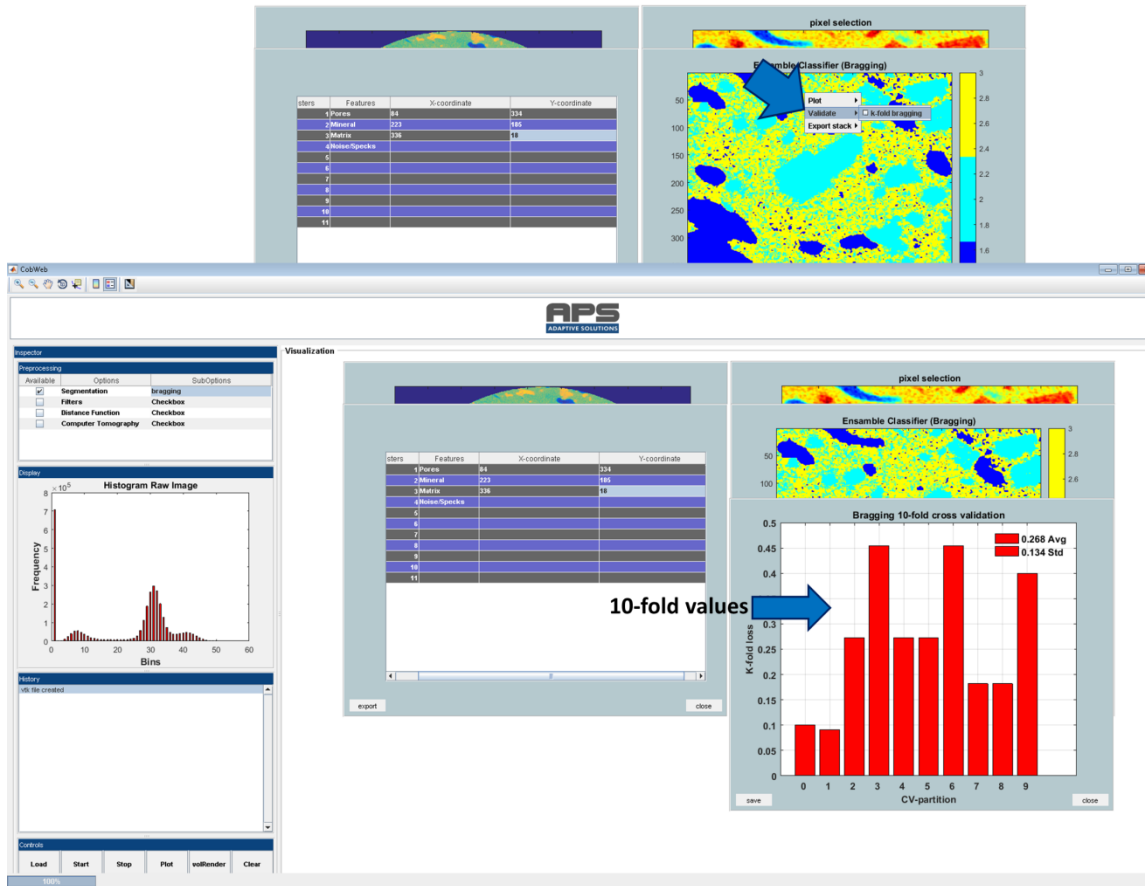

Figure 42: Plotting k-fold cross-validation
- Figure 42 (top panel) shows the plotting of K-fold cross validation. **Right click** on the segmented image and **select validation** → **k-fold bragging**.
- Figure 42 (bottom panel) show the plotted k-fold plot can be saved in the desired image format by clicking the save option.